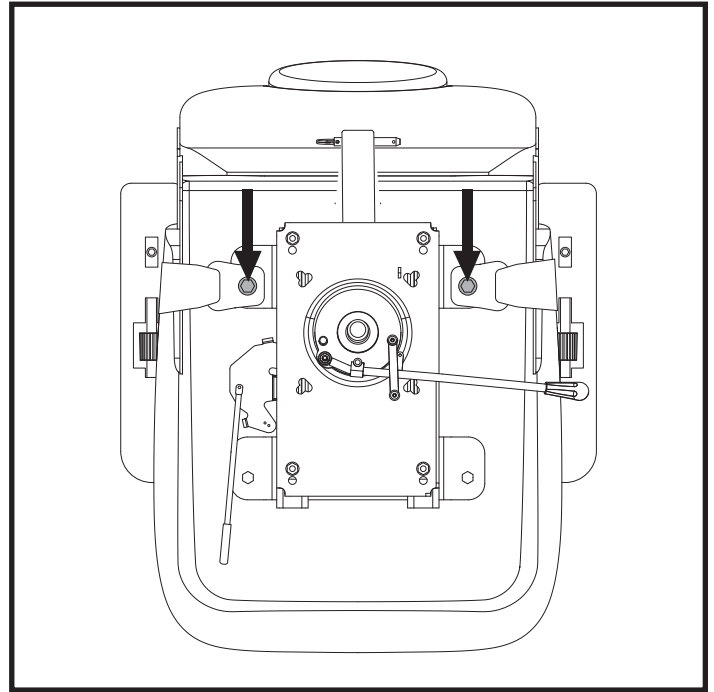

Figure 23. Positioning Belt Bolts
2. Place the seat upside down so that you can see the bottom of the seat base. See figure 23.